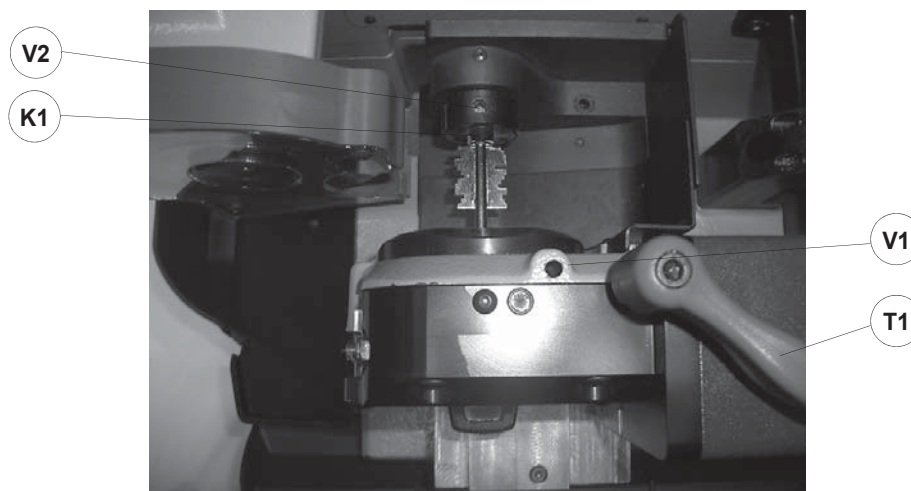

Fig. 29
- 2) Orient the standard tailstock (K1) for male keys in the special seat on the support, using the screw (V2) to direct it upwards (fig. 29).
- 5) Close the mobile clamp jaws slightly, using the T wrench already in the screw (V1), without gripping the key stem; move the rotating clamp (G) towards the tailstock, keeping a minimum safety distance of 10 mm between the rotating clamp jaws and the rear limit of the bit. Secure the rotating clamp in position by means of knob (T1).